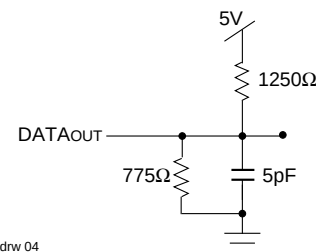

Figure 2. Output Test Load
- Transition is measured ±500mV from Low or High-impedance voltage with the Output Test Load (Figure 2).
1. Transition is measured $\pm 500\text{mV}$ from Low or High-impedance voltage with Output Test Load (Figure 2).
7. This parameter is determined by device characterization, but is not production tested. Transition is measured $\pm 500\text{mV}$ from steady state with the Output Test Load (Figure 2).
7. This parameter is determined by device characterization, but is not production tested. Transition is measured +/- 500mV from steady state with the Output Test Load (Figure 2).